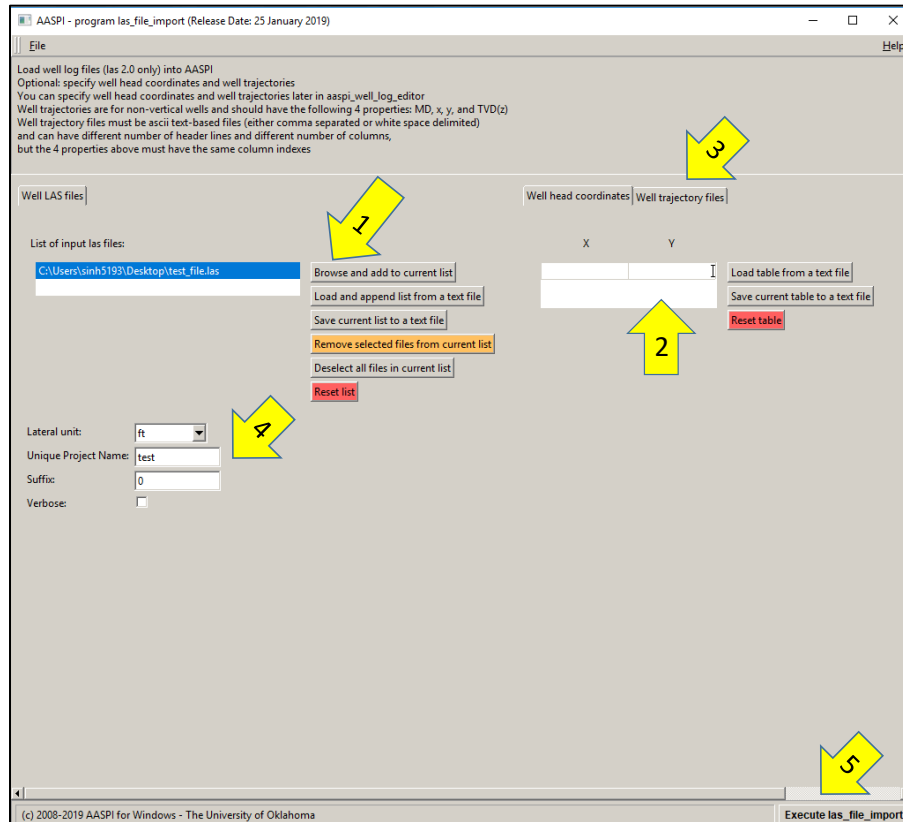

Figure 2. Importing an LAS-format file in AASPI
1. Click on browse and import and add to current list (**Figure 2**)